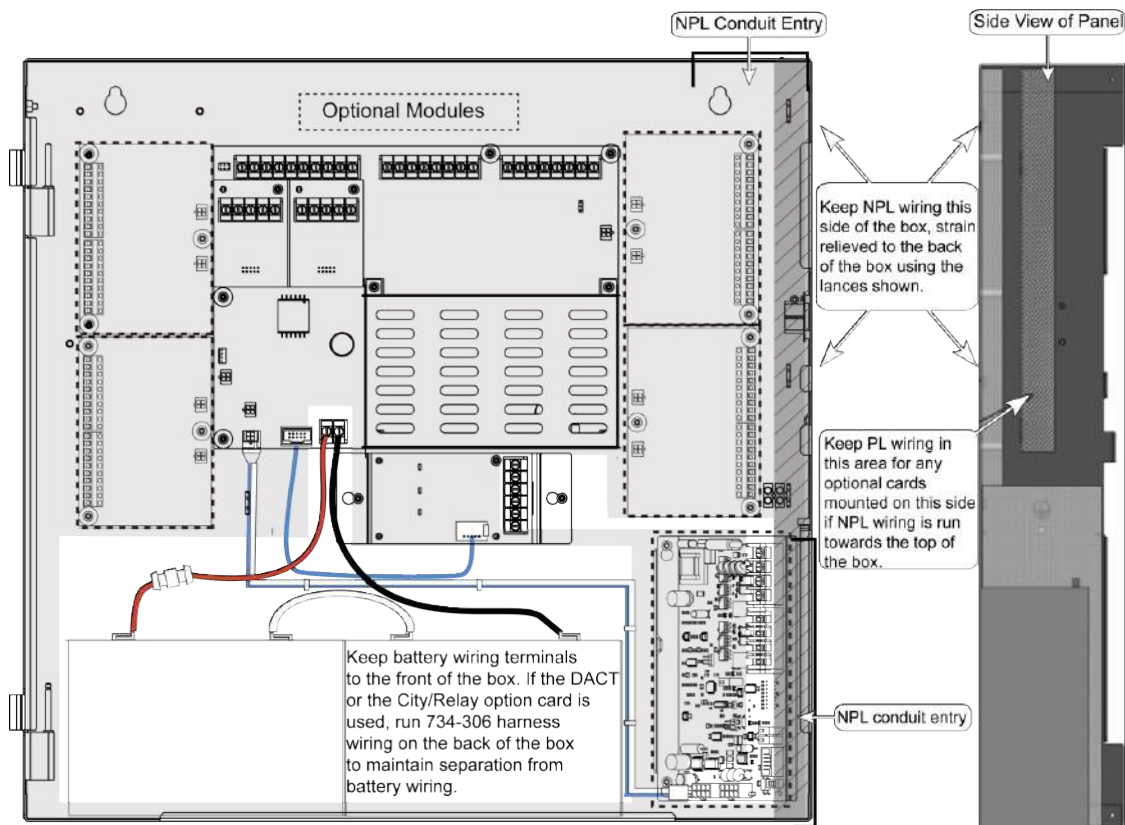

Fig 6: Field wiring guidelines (NAC power supply shown as reference)
- Non-power limited (NPL) field wiring (AC power, batteries, City connection, DACT) must be installed and routed in the shaded areas shown in Figure 6: Field wiring guidelines (NAC power supply shown as reference) on page 8